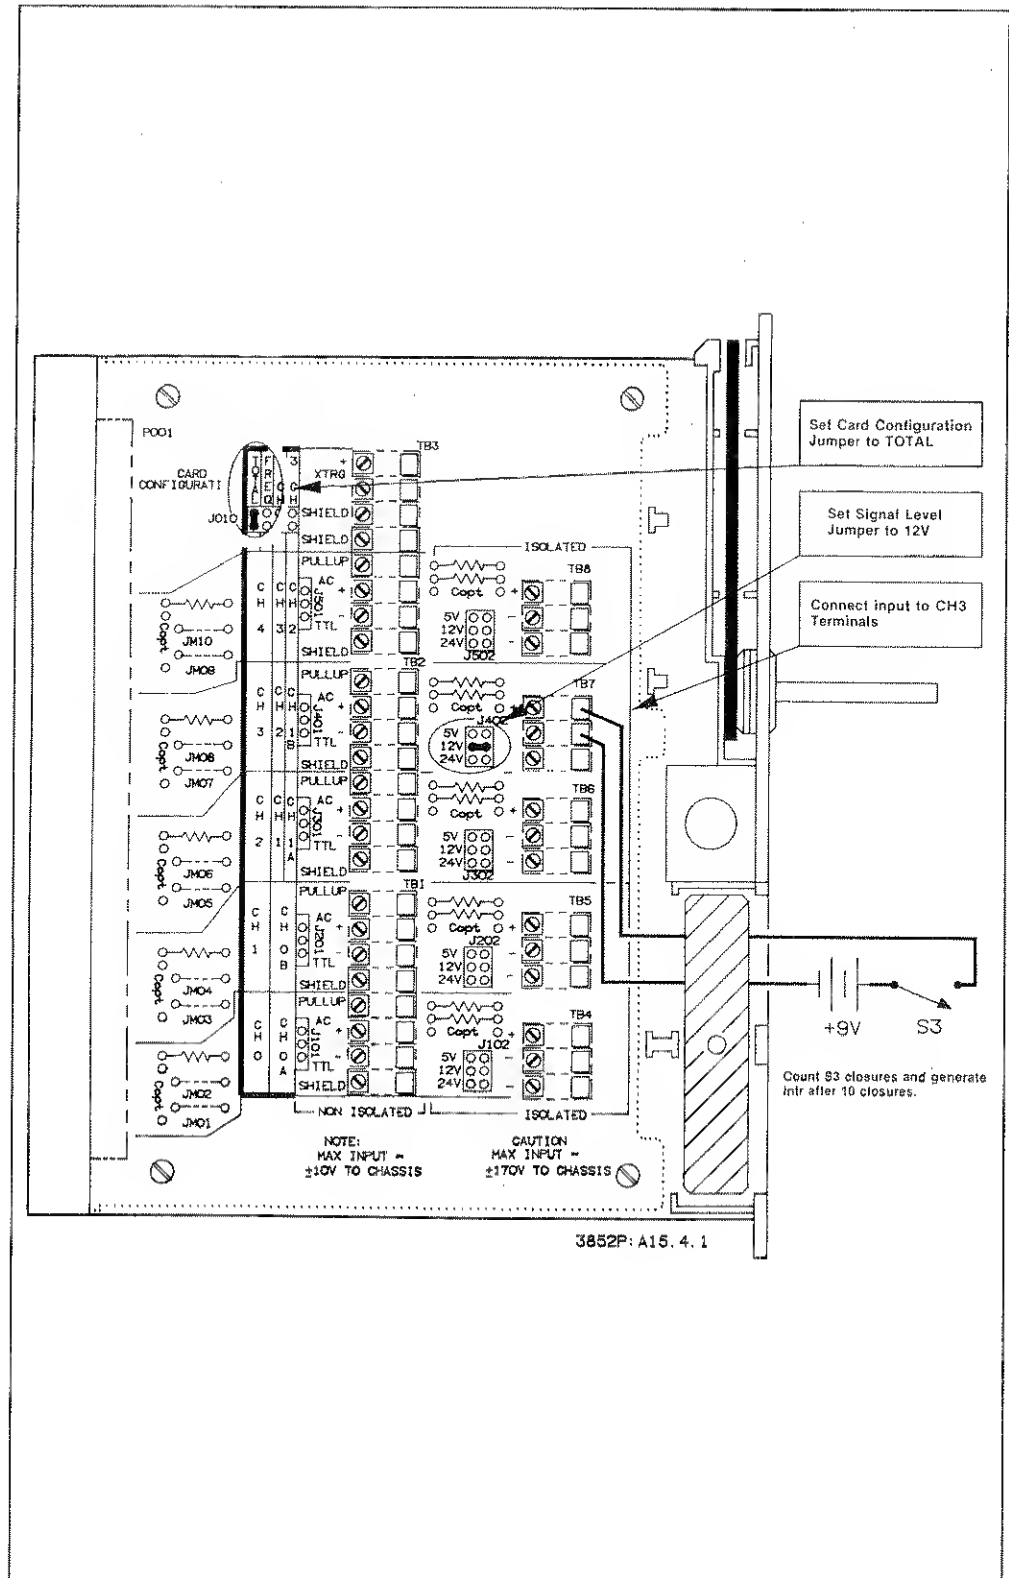

Figure 4-1. Example: Count Switch Closures
**Example:** This program totalizes the number of times a switch (S3) closes and generates an OVF interrupt when the switch closes 10 times. See Figure 4-1